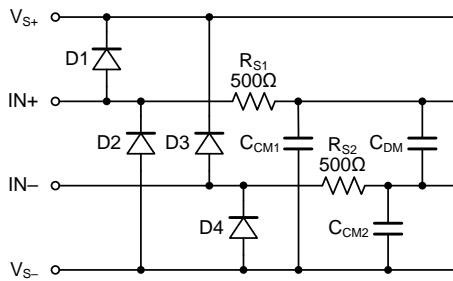

Figure 1. Input EMI Filter and Clamp Circuit
Figure 1 shows the input EMI filter and clamp circuit. The LTC8741/8742/8743/8744 comparators have
Infrared (IR) communication is inherently immune to RF interference as long as there is a line-of-sight path between the transmitter and the receiver. It is also one of the lowest cost communication schemes. This makes it a good choice for implementing wireless communications in applications such as utility metering. A common system topology to extend battery life is to use a power efficient IR receiver analog front end (AFE) that is always on and wakes up the host only when there is a valid IR signal detected as shown in Figure 1.
Figure 1 shows the IR receiver system block diagram. The host MCU is normally in the shutdown mode (during which the quiescent current is less than $1\text{ }\mu\text{A}$) except when data is being transferred.